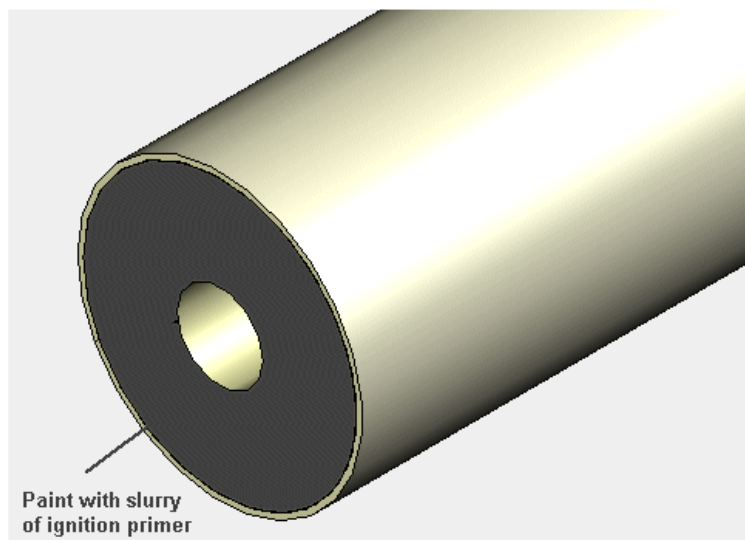

Figure 2 – Priming of propellant segments
- 1. Prepare Ignition Primer slurry (P16) and paint onto both ends of all 12 propellant grain segments, as shown in Figure 2, using small paint brush (T8).